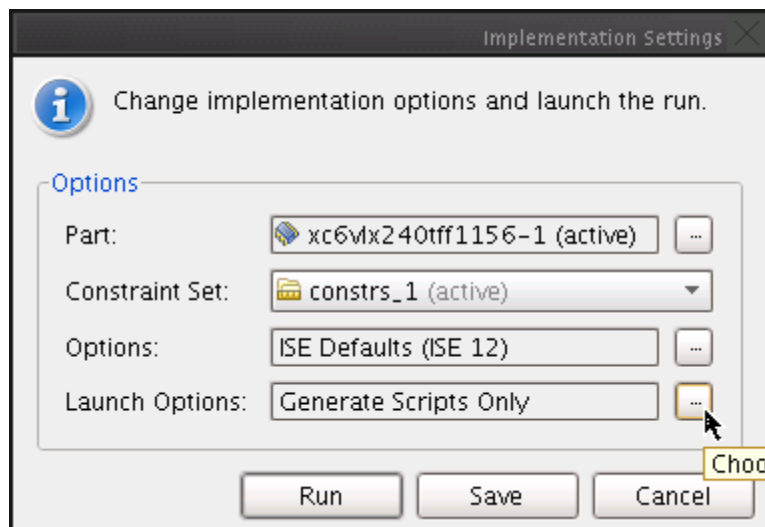

Figure 12: Launch Options
6. In the Implementation Setting dialog box, open the Launch Options dialog box by clicking on the button next to current launch options, as shown in Figure 12.